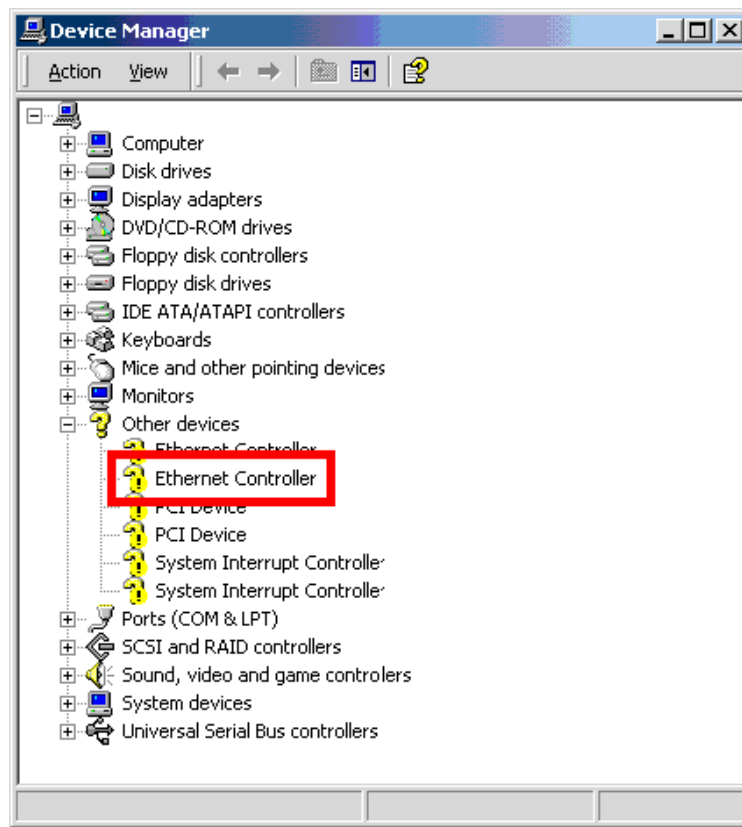

Figure 7-22: Device Manager List
Step 4: A list of system hardware devices appears (Figure 7-22).